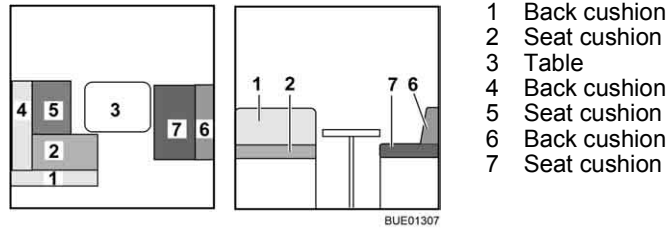

Fig. 148 Prior to conversion
- Convert the table (Fig. 148,3) to a bed foundation (see section 6.10).
- Remove the back cushion (Fig. 148,1) and lay it aside.